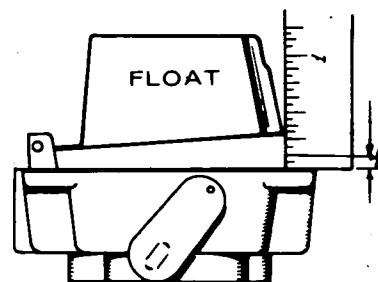

FIGURE 11. FLOAT ADJUSTMENT
2. Invert float assembly as shown in Figure 11.
3. If it is necessary to reset the float level, bend the float tangs near the pin to obtain a 1/8 inch clearance (Figure 11).